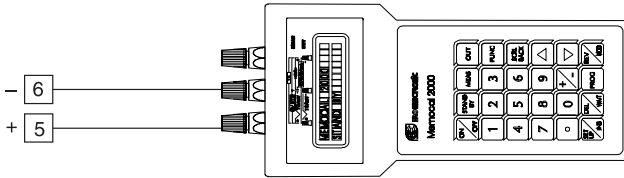

Fig.11
- Connect the instrument under test to the calibrator as shown in Fig. 11.